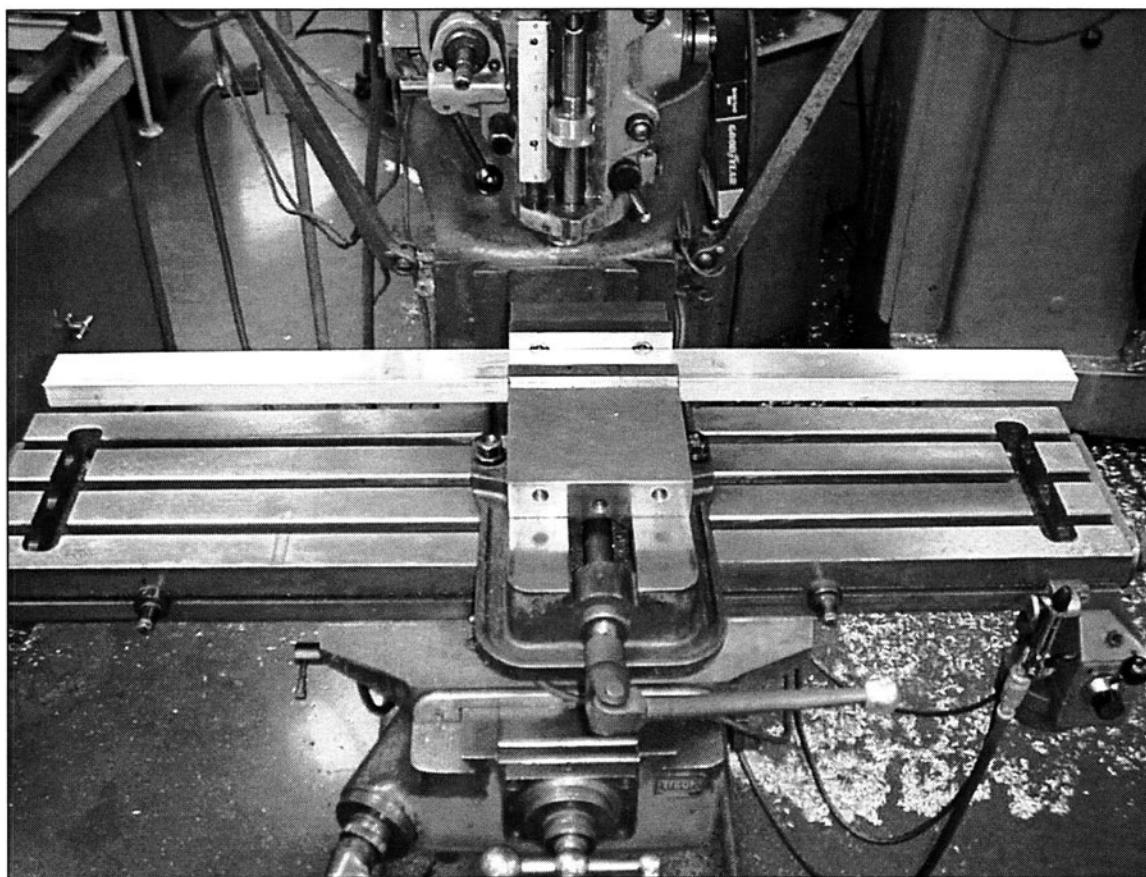

FIGURE 18-4 A vise can be lined up relatively close by eyeballing a bar across the edge of a machine table.
32. *Eyeball the squaring of a milling machine vise within .002" everytime? (See Fig. 18-4)*